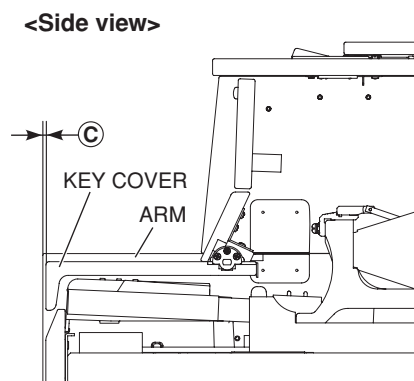

Fig. 5
- Standard 2 Make sure that with the key cover closed the difference in level between the front surface of the arm and the front of the key cover is within the standard (especially the difference on the left and right). (Fig. 5)
3.2 mm $\pm$ 2 mm, difference on the left and right within 2 mm (Fig. 5)